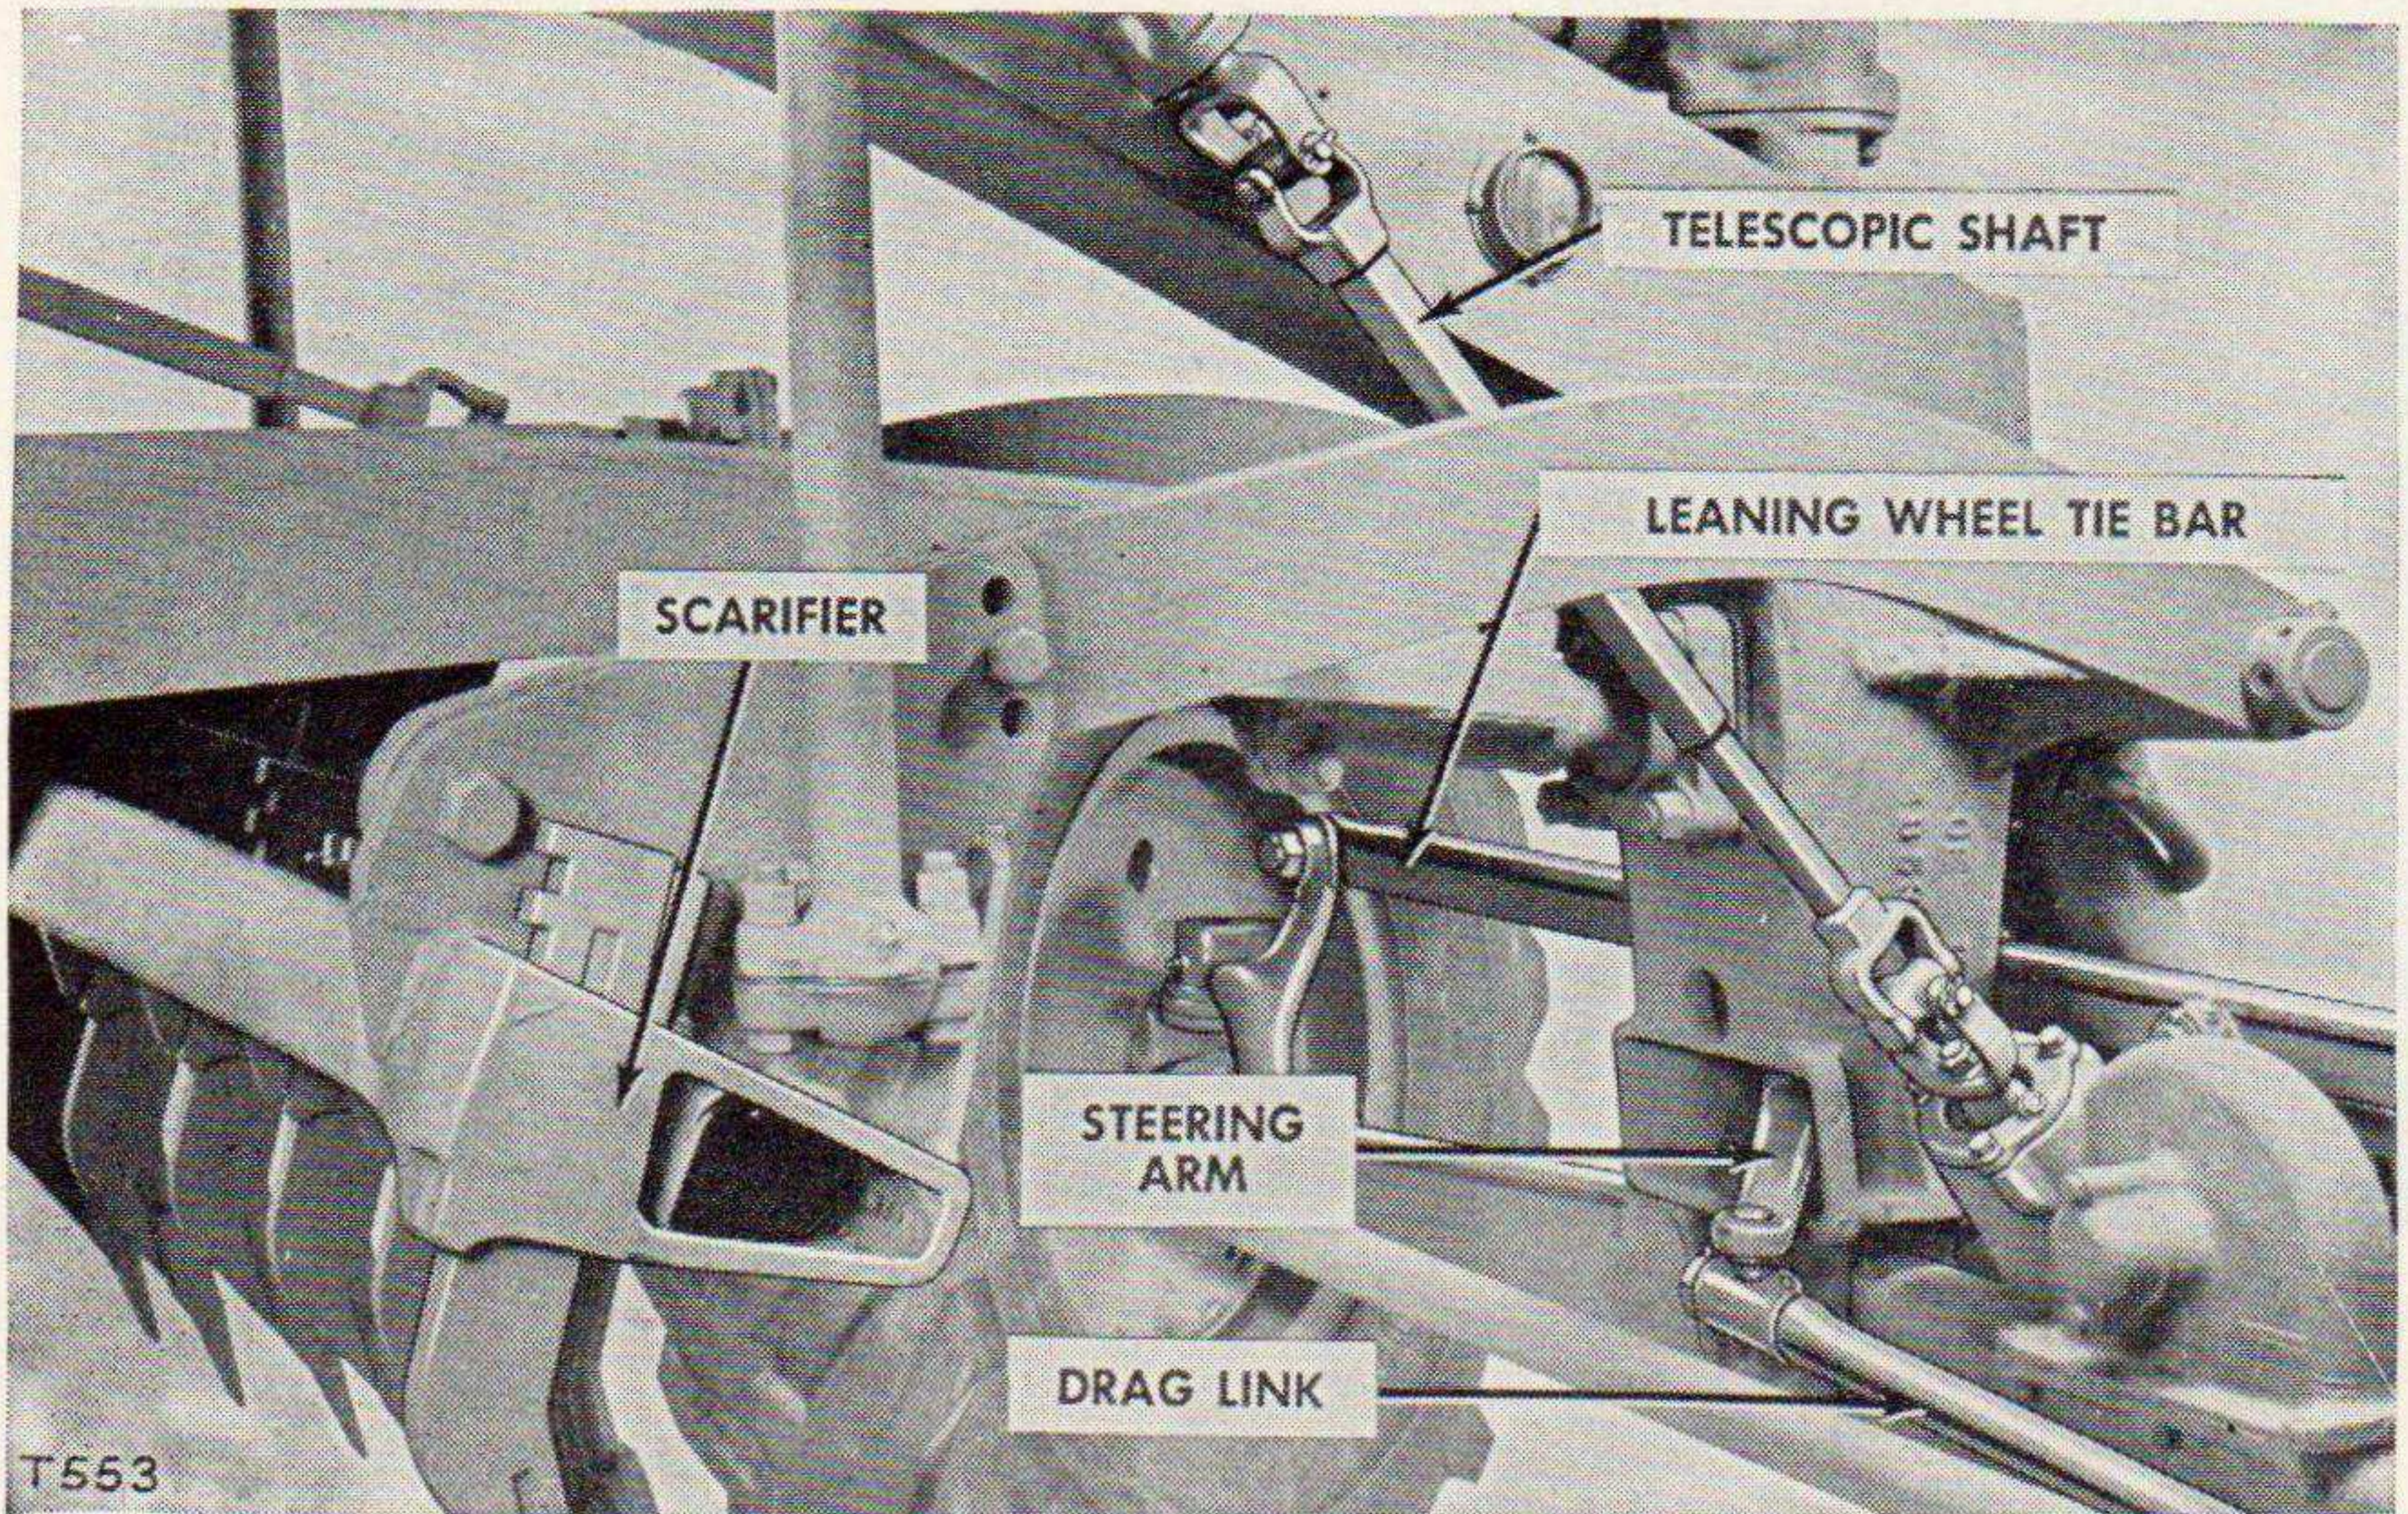
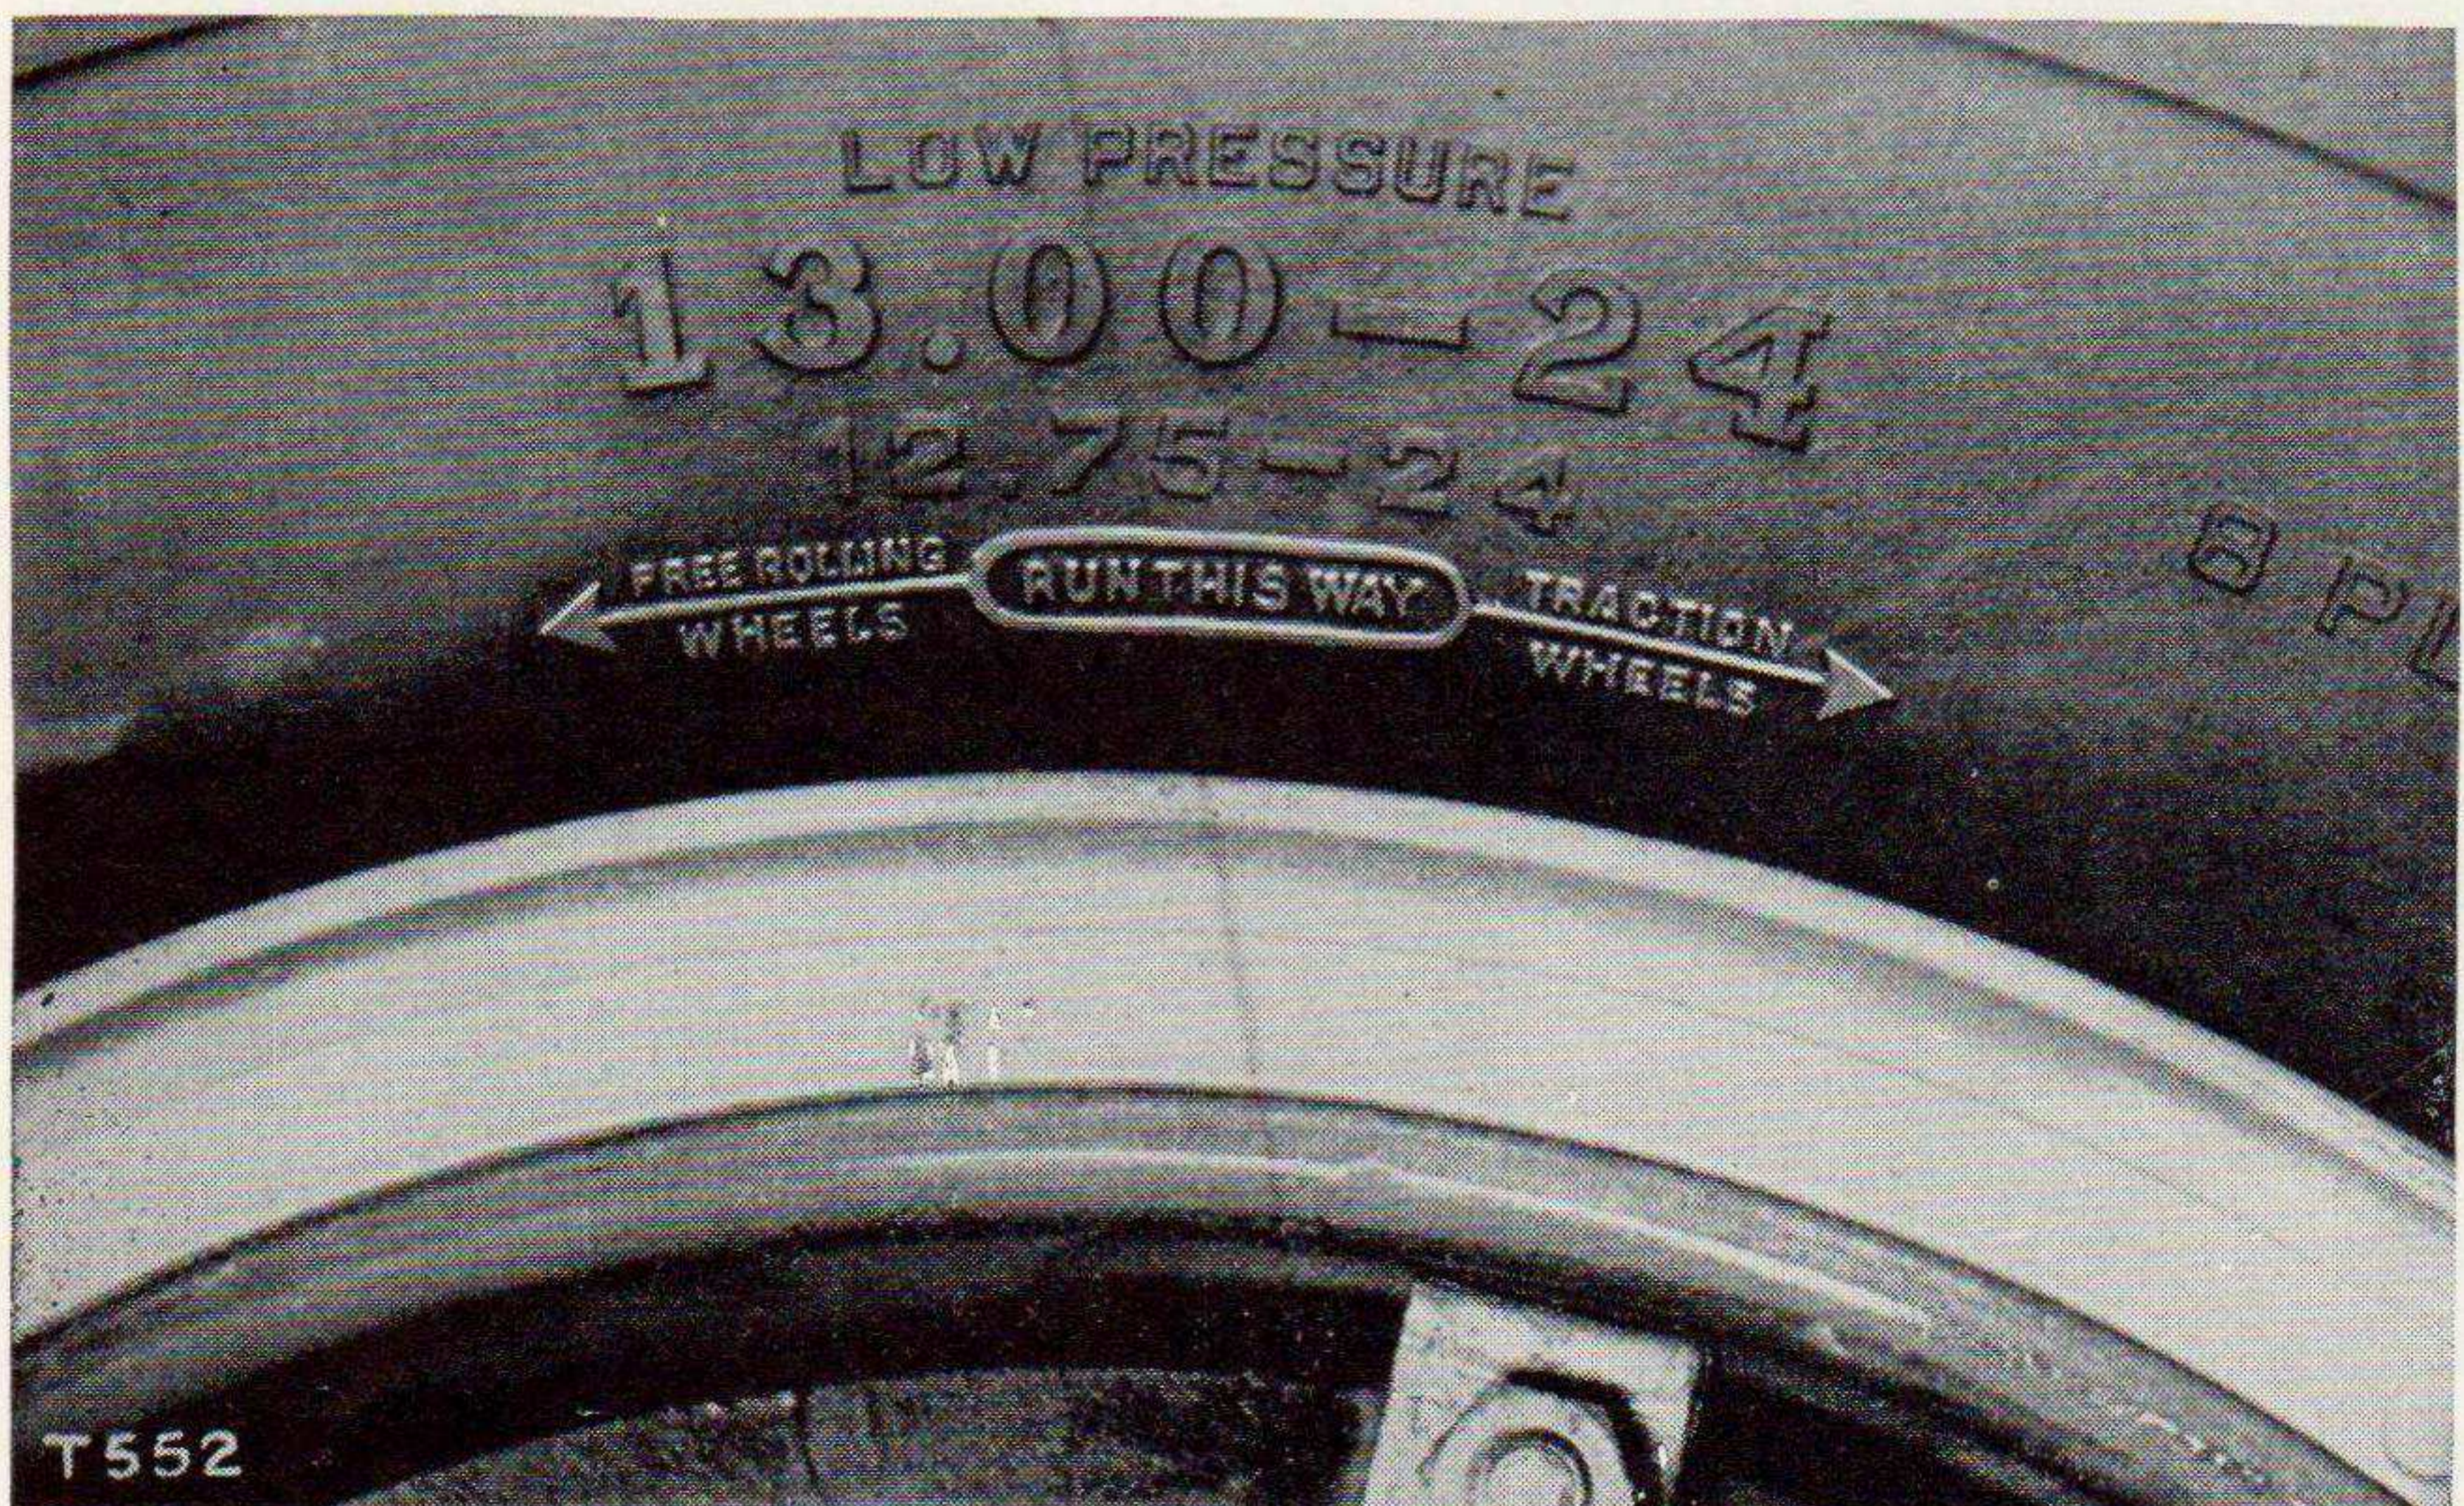

Figure 8. Front axle assembly and scarifier attached.
Figure 9. Tire rotation marking.
g. **ATTACH THE FRONT AXLE ASSEMBLY.** (See fig. 8.)
- (1) Lift off the front axle assembly and place it in a position which will permit the motor grader frame to be lowered onto it. Remove the leaning wheel tie bar and replace it after the axle has been attached to the bolster.
- (2) Connect the steering arm to the drag link.
- (3) Assemble the telescopic leaning wheel control shafts at the universal joint. Be sure the universal joint forks on each end of the telescopic shaft are assembled parallel to each other.
- (4) Install the steering wheel and shaft.
h. **INSTALL THE TIRES.** Install the front tires with the arrow marked "FREE ROLLING WHEELS" pointing in the direction of rotation. Install the rear tires with the arrow marked "TRACTION WHEELS" pointing in the direction of rotation. (See fig. 9.) If 13.00—24 tires are used both front and rear, inflate all tires to 28 or 30 pounds. If smaller high pressure tires are used in front, inflate them to 70 pounds.